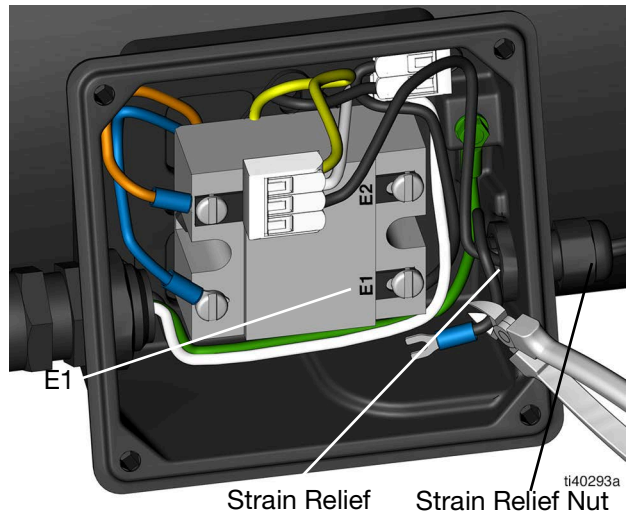

FIG. 11
8. Use a screw driver to disengage pressure switch wire from E1. Unplug the other pressure switch wire from the connector containing the yellow and white cables (FIG. 11).
9. Cut the pressure switch wire (FIG. 11) with the fork connector.
10. Loosen the strain relief nut (FIG. 11).
11. Pull the pressure switch wire out of the terminal box through the strain relief (FIG. 11).